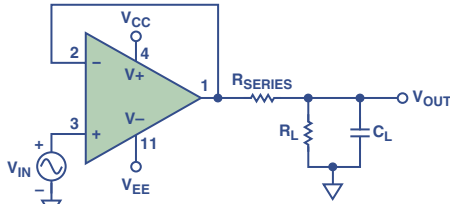

Figure 8. External  $R_{series}$  isolates the amplifier's feedback loop from the capacitive load.
**A:** Yes, the easiest way is to use a single external resistor in series with the output. This method is effective but costly in terms of performance (Figure 8).